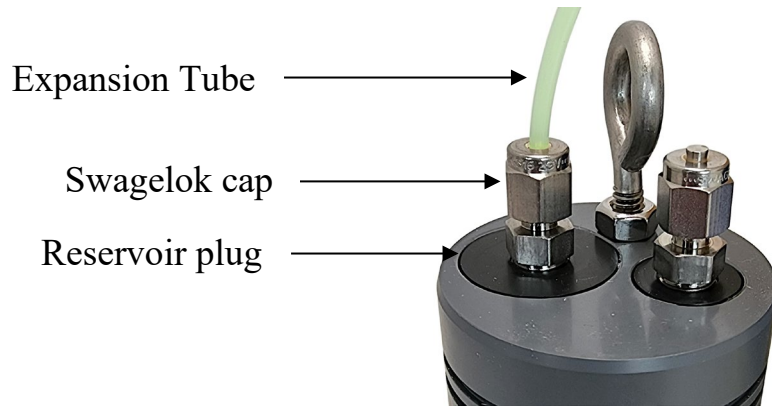

Figure 2 – Remove the expansion Tube
- 2) Remove the Swagelok cap and expansion tube from the Swagelok fitting on the reservoir plug, then fully insert the needle into the fitting until it bottoms out. (Refer to Figure 2 and Figure 3 below.)